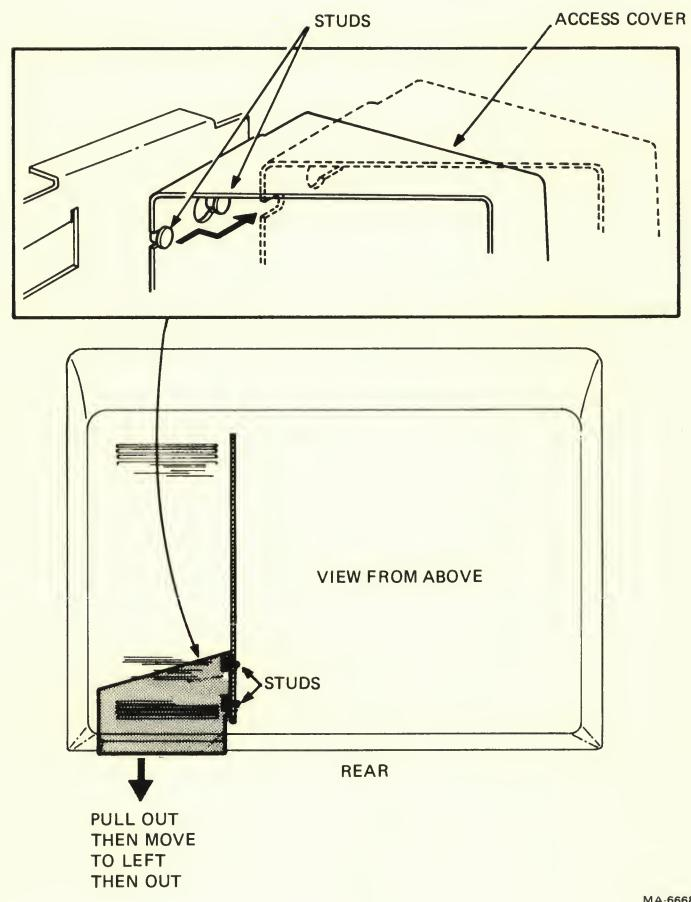

Figure 7-3 Access Cover Removal
5. Pull the access cover straight out from the back of the terminal. When the access cover is loose, move it to the left to avoid the studs in the terminal. Then continue to pull the access cover straight out (Figure 7-3).
11. Hold the access cover straight up and move it to the right side of the opening in the terminal. Push the access cover into the back of the terminal and feel the studs in the terminal. Push the access cover onto the studs until the cover is in place. Figure 7-3 shows how the access cover fits on the studs.
- c. Pull the access cover straight out from the back of the terminal. When it is loose, move the access cover to the left to avoid the studs in the terminal. Then continue to pull the access cover straight out (Figure 7-3).
- d. Set both 20 mA option switches to the normal position (Figure 7-5) and install the access cover (Figure 7-3).